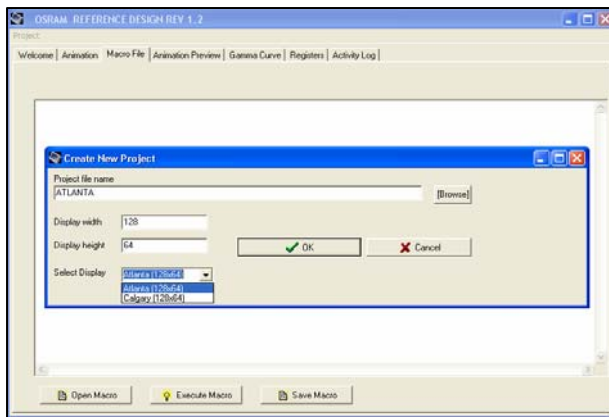

Figure 2a
- ii) Select Atlanta (128x64) at the Select Display. Then click ok. The process is shown in the Figure 2a.